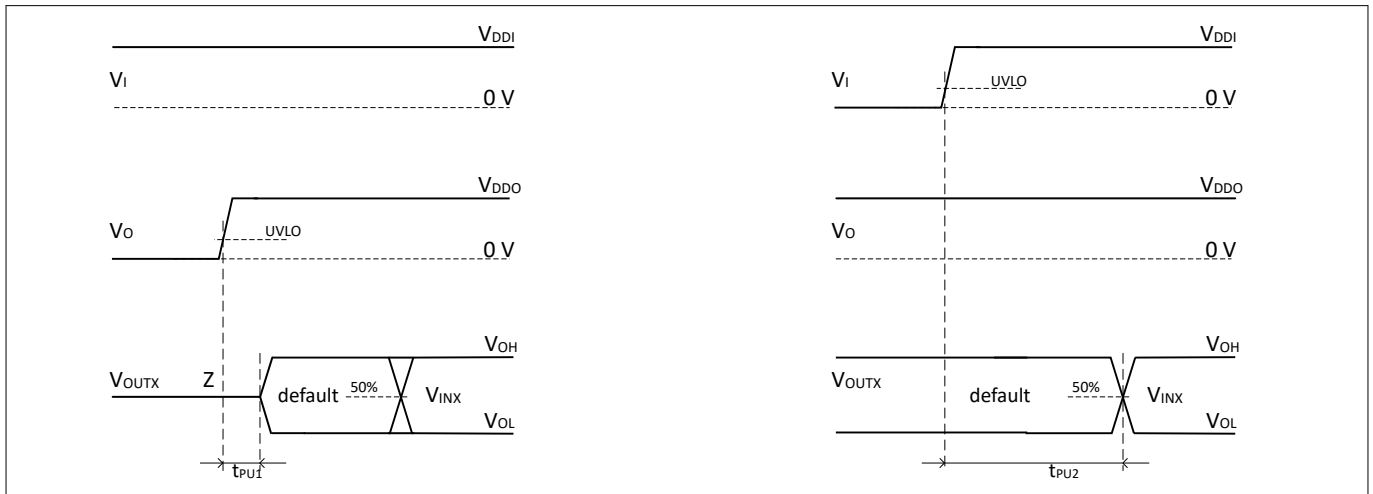

Figure 10 Power-up delay time
Figure 10 illustrates the time taken for the output to follow the input when the power supplies of the input and output sides of the digital isolator have different start-up timings. The power-up time is $t_{PU} = \max \{t_{PU1}, t_{PU2}\}$.
Communication based on Coreless Transformer (CT) is used for signal transfer between input and output channels. If a constant DC level within the operating range is applied at the input, a proven high resolution pulse repetition scheme ensure functionality, enabling the output to follow the constant DC input. It also enables recovery from communication fails and safe system shutdown. In case of a power loss at the input channel, the pulse repetition scheme will be disabled and a watch-dog timer at the output triggers approximately after t_{D0} time period and drives the channel output to the default state. In case of multiple channels on the output side, the first watch-dog timer detecting the power loss at the input will drive all output channels on that side to default value. Once the power supply on the input channels is above the threshold value ($V_{DDX(UVLOon)}$), the communication is restored and the output will follow the input as shown in Figure 10.